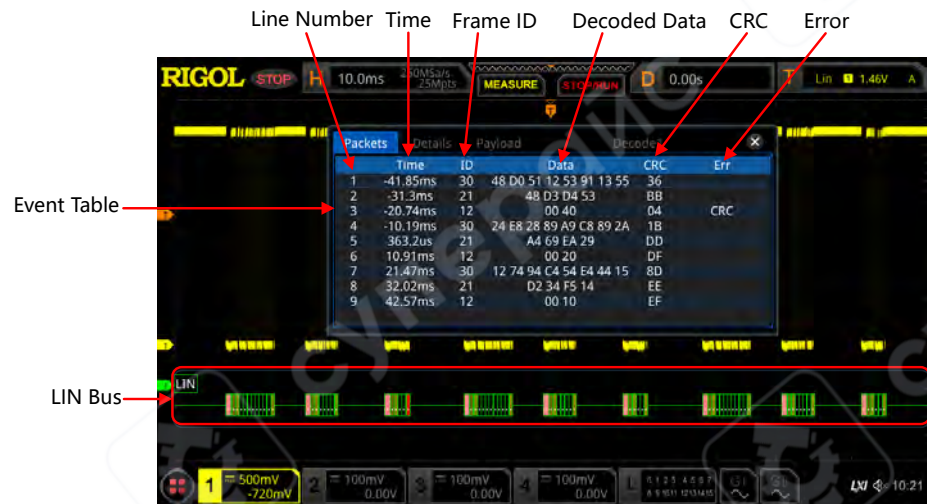

Figure 15.9 LIN Decoding Event Table
- Open or close the event table: Press **Event Table** continuously to enable or disable the display of the event table. When enabled, the following event table as shown in *Figure 15.9* is displayed. You can also enable the touch screen to tap the icon  at the right-upper corner of the event table to close it.